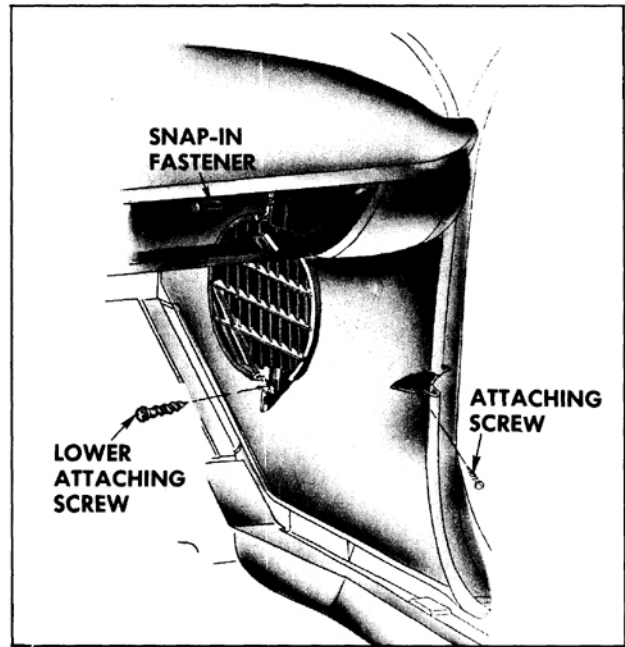

Fig. 16-312 Shroud Side Foundation
1. Remove attaching screws and snap-in fastener (Fig. 16-312) and remove foundation assembly.